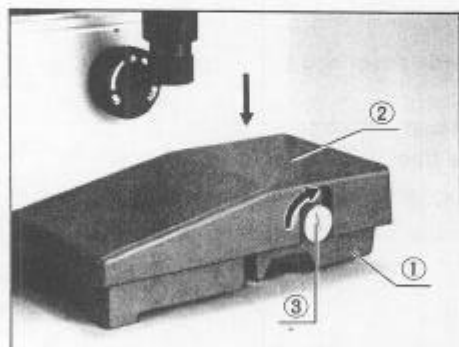

Fig. 17
Attach the hand rests ② on the right and left sides ① of the microscope base, clamp knobs ③ with a coin. (Fig. 17)